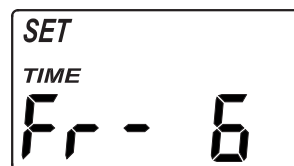

FIG. 32
- Press the SELECT button five times, so that "SET TIME Fr" appears in the display (See Figure 32).